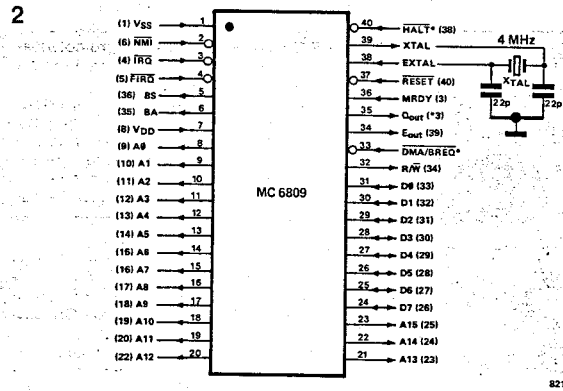

Figure 2. Pin assignment of the 6809 CPU. The pin numbers in brackets correspond to the 6502.
- But it is time to answer the question of how can a 6502 system be converted into a 6809 computer? First of all, mount the 6809 CPU together with a 4 MHz quartz crystal and two capacitors on a piece of Veroboard and mount the unit on a 40-pin DIL connector. Now simply substitute the 6502 for the 6809. The pin assignment is shown in figure 2. This piggy-back construction is illustrated in the photograph.